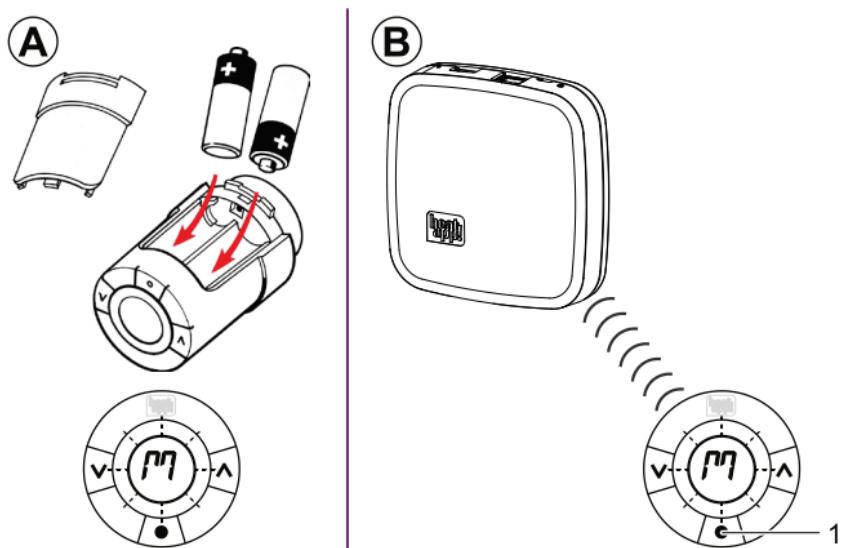

Fig. 10: registering heatapp! drive
1. Unpack a **heatapp! drive** and insert the AA batteries in the battery compartment (Fig. 10, **(A)**). Ensure you connect the positive and negative terminals correctly!
3. The display on the **heatapp! drive** displays a flashing "M". Now press the learn key (Fig. 10, **(B)**, item 1) in the middle below the display. As soon as the **heatapp! gateway** recognises the **heatapp! drive**, you are requested to allocate the actuator to a room that was created in the **heatapp! base** set-up and enter a name for this actuator (e.g. "*Window radiator*").
- Press the learn key (Fig. 10, **(B)**, item. 1) for 3 seconds until the display goes out and the **heatapp! drive** audibly attaches to the valve.